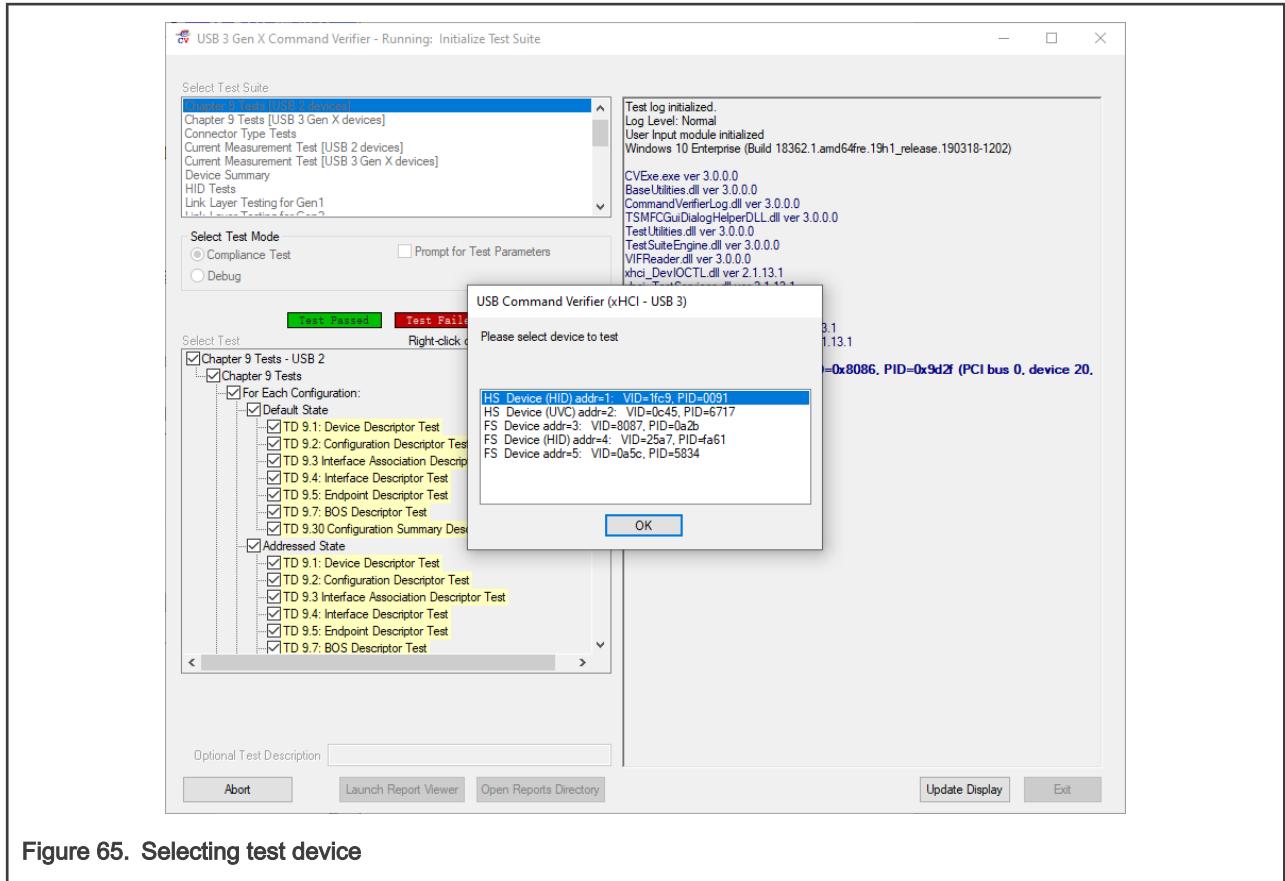

Figure 65. Selecting test device
2. Select **Chapter 9 Tests[USB 2 devices]** and click **Run**. Select the device under test in the pop-up dialog, as shown in Figure 65. Click **OK** to run the test.